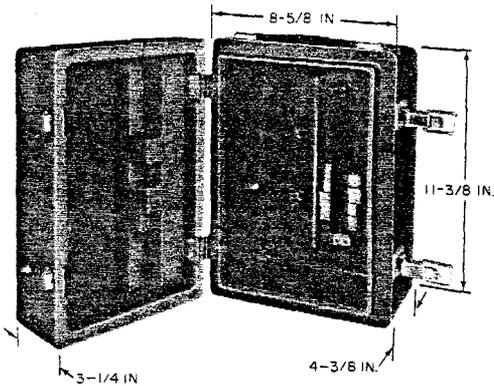

Fig. 11—C Test Connector Case for Storing F Test Connector
12.02 The C connector case (Fig. 11) consists of a plastic carrying case with a hinged cover, a carrying handle, and two snap catches. Supports are provided for holding the connector in place. The six adapters furnished with the F test connectors are supplied in a plastic bag.